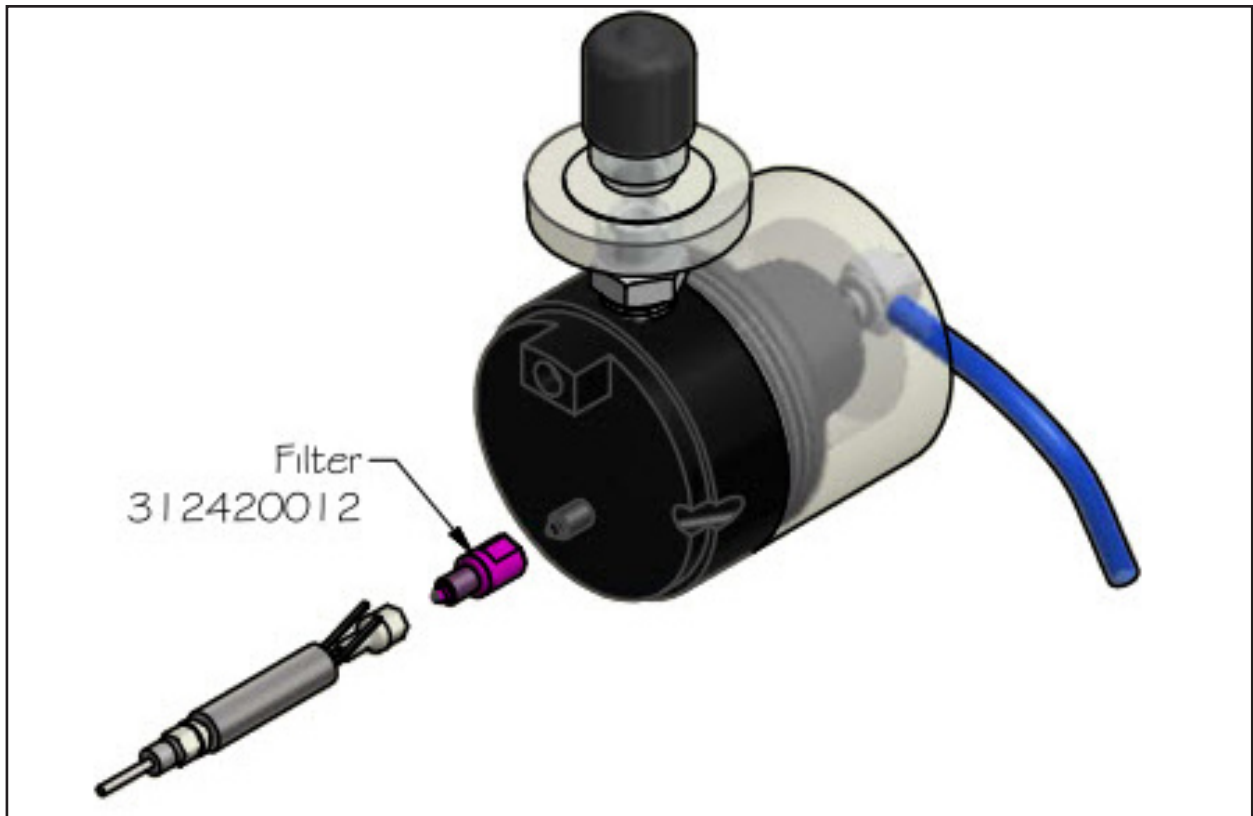

Fig. 1.8
3. Unscrew the valve from the filter and then remove the filter from the threaded nipple. (See Fig. 1.8)